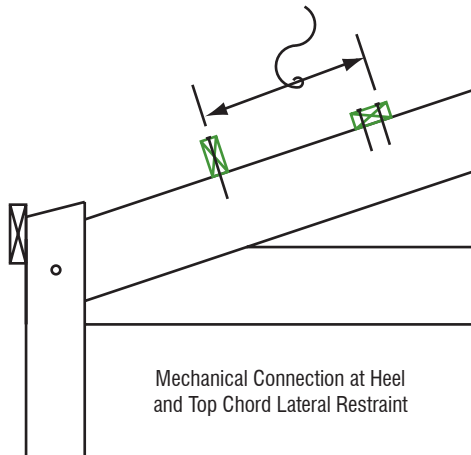

FIGURE B10-15
- 3.1 Provide a mechanical connection to resist truss rollover at the heel (Figure B10-15, page 79). This includes the use of nails, bolts, lag screws, metal straps, or connectors.
- 3.2 Install Temporary Lateral Restraint to the top chords of the trusses as indicated in Table B10-1 and shown in Figures B10-15 and 16, page 79.